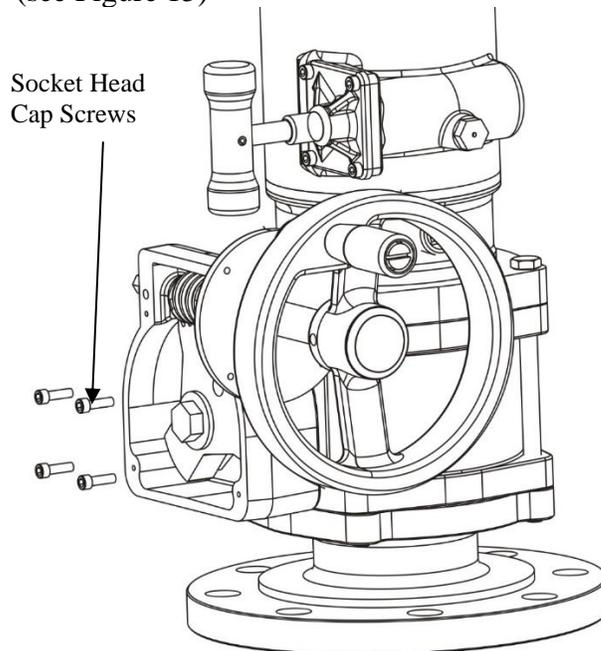

Figure 15
- Remove the socket head cap screws that attach the gear assembly to the integral valve body. (see Figure 15)
- Install the 4 socket head cap screws that attach the gear actuator to the integral valve body (see Figure 15)